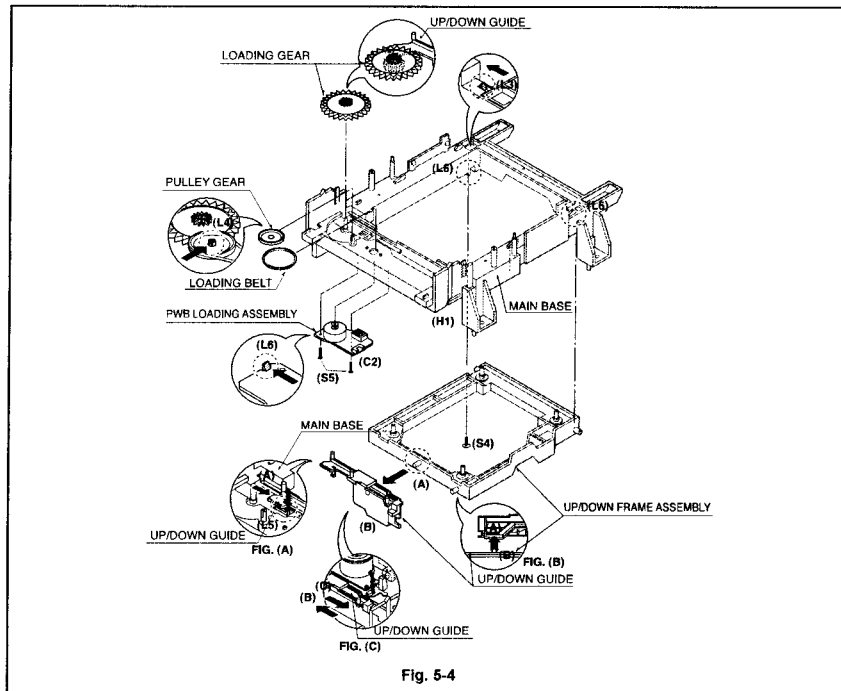

Fig. 5-4
5. Frame Assembly Up/Down (Fig. 5-4)
- When reassembling move the Guide Up/Down in direction of arrow(C) until it is positioned as Fig.(C).
- When reassembling insert (A) portion of the Frame Assembly Up/Down in the (B) portion of the Guide Up/Down as Fig.(B)
6. Belt Loading(Fig. 5-4)
7. Gear pulley (Fig. 5-4)
- 1) Unlock the Locking Tab(L4) in direction of arrow(B) and then separate the Gear Pulley from the Base Main.
8. Gear Loading (Fig. 5-4)
9. Guide Up/Down (Fig. 5-4)
10. PWB Assembly Loading (Fig. 5-4)
11. Base Main(Fig. 5-4)